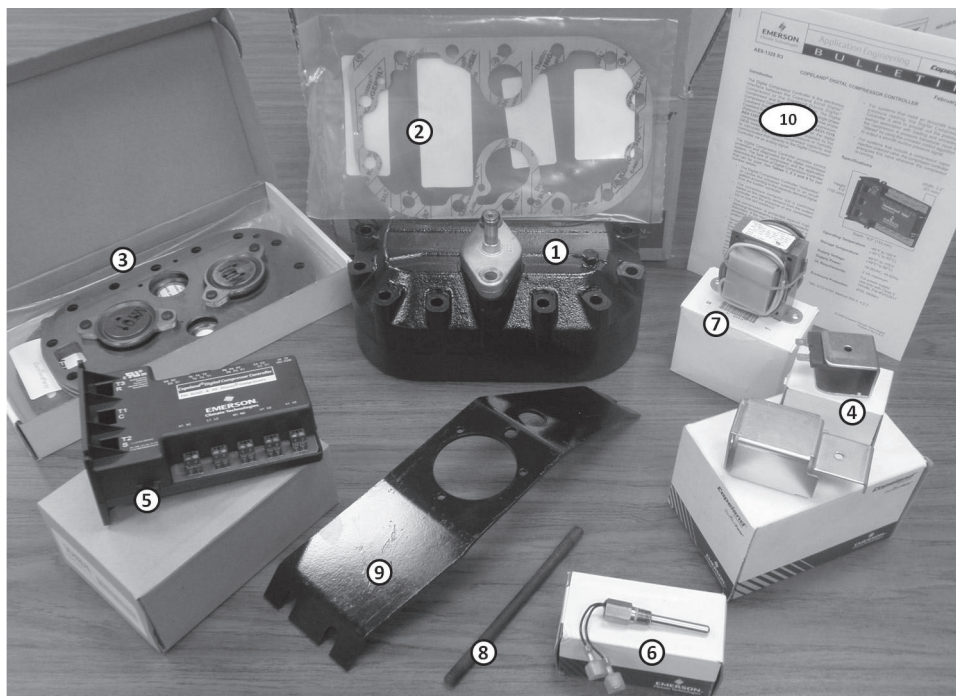

Figure 1
with Intelligent Store Discus v2.1¹? and (2) what is the application? (e.g. low, or medium/ high temperature) Based on this information, you have four different upgrade kits to choose from in **Tables 1** and **2** on the following pages. Each upgrade kit includes a digital head, valve plate, gaskets, sensors, and high cycle solenoid coils. Each part is numbered and depicted in **Figure 1**. For further explanation of the kit pieces, refer to the Appendix of this bulletin.